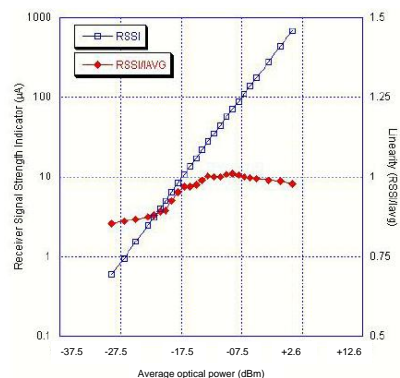

Figure 5 - Typical average monitor current and RSSI voltage (one channel)
- **Receiver Signal Strength Indicator (RSSIx):** the DC/low-frequency outputs source a current proportional to the average input photocurrent (internally loaded by a Resistor to provide a Voltage output) of the corresponding channel provided that V_{RSSIx} is within the operating range specified ($V_{RSSIx} \leq 2.0$ V) to obtain best linearity (see receiver characteristics table). This output can be used to monitor the optical power incident on the photodiode. It may be left open if not used. The upper corner frequency of the output is equal to the roll-on frequency f_{LOW} of the high-speed data path (Figure 5 & Receiver characteristics table).